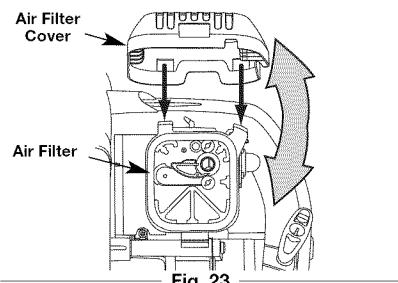

Fig. 23
- Open the air filter cover. Push the locking tab on the underside of the cover inward. Then pull the air filter cover out and up. (Fig. 23).
- Remove the air filter (Fig. 23).
- Replace the filter (Fig. 23).
- Reinstall the air filter cover. Position the slots on the top of the air filter cover onto the tabs at the top of the back plate (Figs. 23).
- Swing the cover down until the tab on the air filter backplate snaps into place in the slot on the air filter cover (Fig. 23).